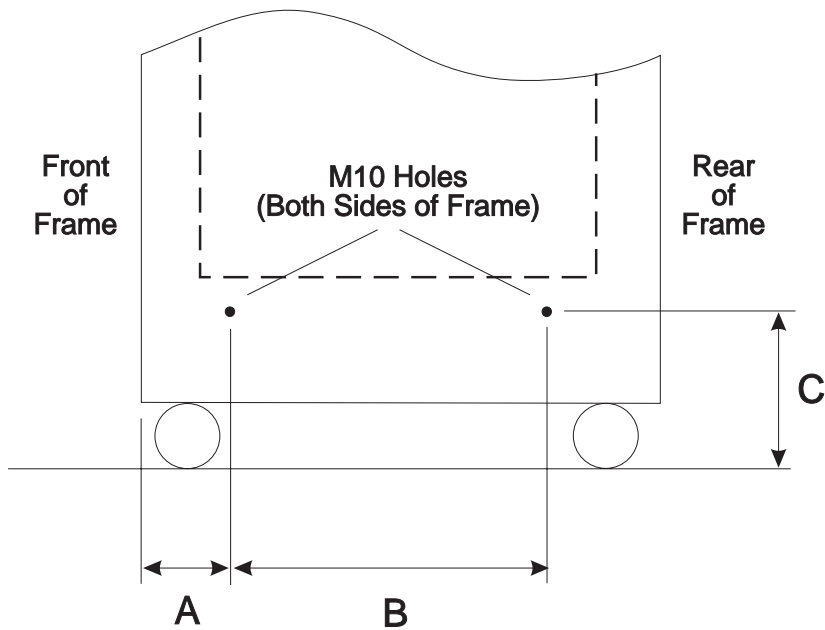

Figure 2-14. Locations of M10-tapped tie-down holes on 1.25 m and 2.01 m frames
1.25 m and 2.01 m frame tie-down locations: The 1.25 m and 2.01 m frames have two M10-tapped holes on each side of the frame for attachment to customer-supplied tie-down devices. See Figure 2-14 on page 2-18 and Table 2-4 on page 2-18 for hole locations.